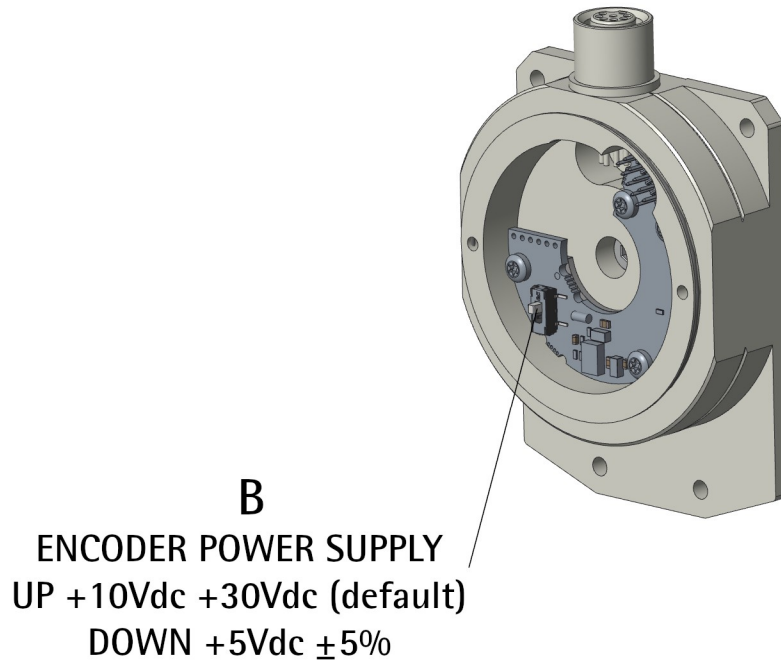

Figure 5 - POWER SUPPLY DIP switch
Before switching the power on, please read carefully the "4.1.1 POWER SUPPLY DIP switch (Figure 5)" section on page 26.
4.1.1 POWER SUPPLY DIP switch (Figure 5)